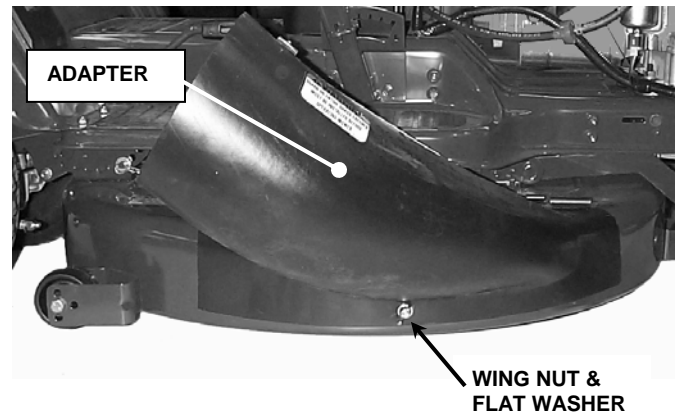

FIGURE 1.14
- D. Install one of the previously removed bolts into the hole in the center of the discharge opening and through the hole in the Adapter. Secure the Adapter to the deck with a flat washer and wing nut. See Figure 1.14.